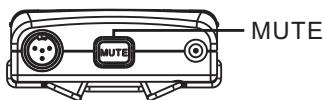

Fig. 13
1. Press MUTE button to enter MUTE mode, Fig. 13.